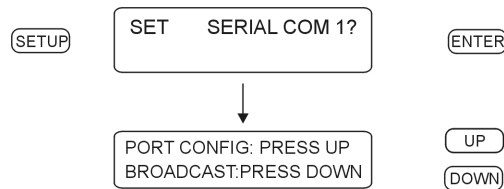
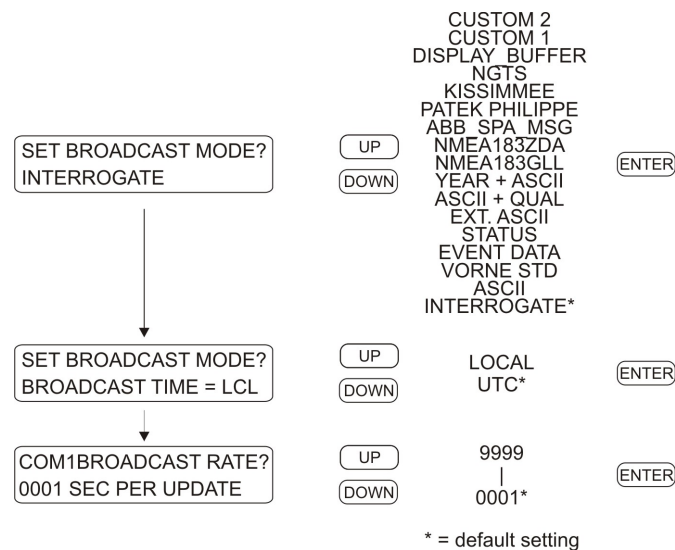
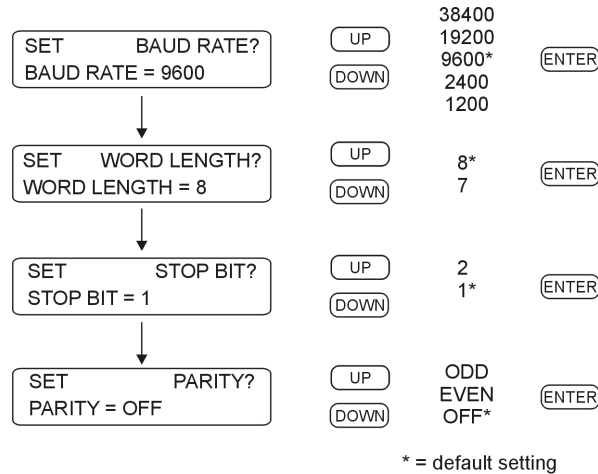

Figure 7.1: COM1 Setup
Figure 7.3: Broadcast Mode Setup
Figure 7.4: COM1 and COM2 Parameter Setup
Press SETUP key to configure Serial COM1. To enter the Set Serial COM1 menu, press the SETUP key and then the ENTER key. After this you will be able to choose between configuring the serial port parameters (PORT CONFIG) or selecting one of the broadcast options (BROADCAST). If you select BROADCAST, by pressing the DOWN key, you will also be able to select the preferred time zone in the broadcasted string (either UTC or LOCAL). See Figure 7.1.
From the menu shown in Figure 7.1, press the DOWN key to select the Broadcast option and set up the 1094B to broadcast one of the available strings. Press the UP or DOWN keys to navigate through the seventeen choices for the broadcast strings, starting with INTERROGATE MODE (as seen in Figure 7.3). Interrogate Mode means that the 1094B is not broadcasting, but waiting for a command. When you have selected the desired broadcast string, press ENTER to apply the broadcast. For broadcast strings other than INTERROGATE MODE, two menus should follow: (1) select the time zone (UTC or Local), and (2) select the broadcast rate (1 to 9999 seconds between successive broadcasts, depending on type of broadcast).
To set COM parameters, press the UP key as shown in Figure 7.1. Work through each menu to select your desired settings – see Figure 7.4.
Configure COM1 and COM2 in the same manner as shown in Figure 7.4. The “SET SERIAL COM2?” menu immediately follows the “SET SERIAL COM1?” menu. Another method of directly entering the SET SERIAL COM2? menu is to press the SETUP key twice.